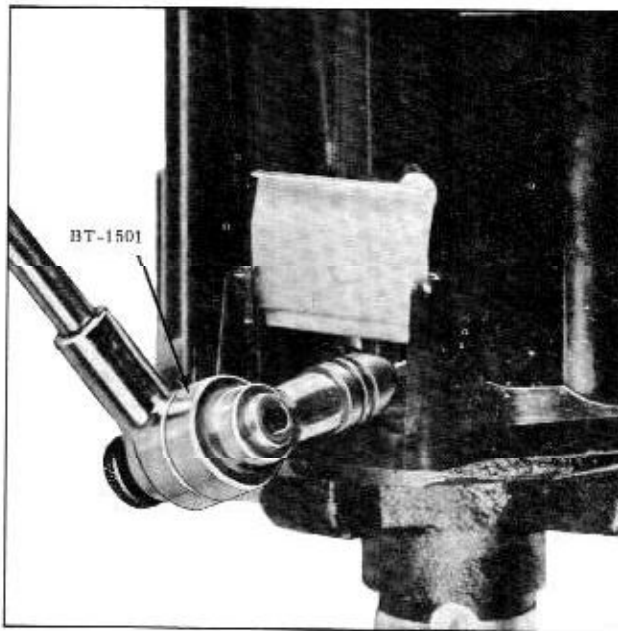

Fig. 13-58 Adjusting Dwell Angle
4. With the engine running at idle speed, insert Dwell Adjusting Tool BT-1501 into the head of the adjusting screw as shown in Fig. 13-58 and adjust dwell angle to 30° .